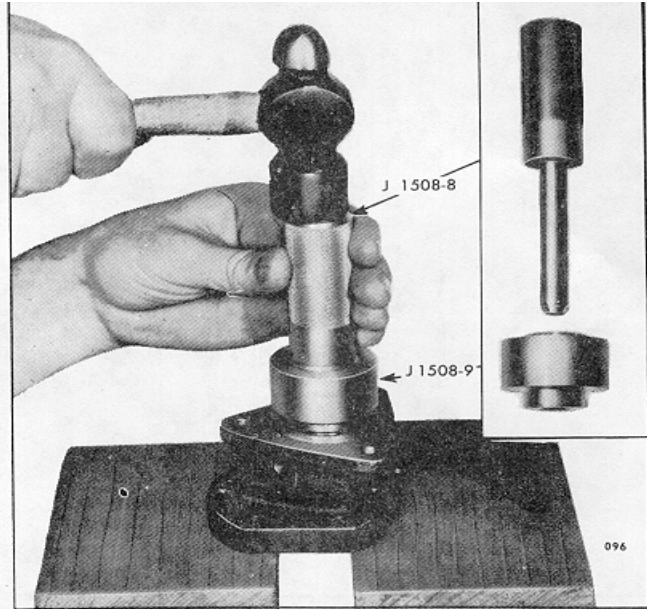

Fig. 8 - Installing Outer Oil Seal
- c. Place the shorter end of the adapter J 1508-9 over the pilot and against the shoulder of the installer handle. Place the outer oil seal on the pilot of the installer handle with the lip of the seal facing the adapter. Then insert the pilot of the installer handle into the pump body and drive the seal in (Fig. 8) until the shoulder of the adapter contacts the pump body. Thus the oil seals will be positioned so that the space between them will correspond with the drain holes located in the bottom of the pump body.